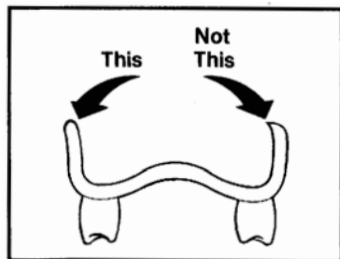

Figure 1 - Reducing/Contouring Peripheral Borders
1. Reduce peripheral borders of denture 1 mm and contour as shown in Figure 1. TRIAD VLC Materials may be used to extend borders if needed.